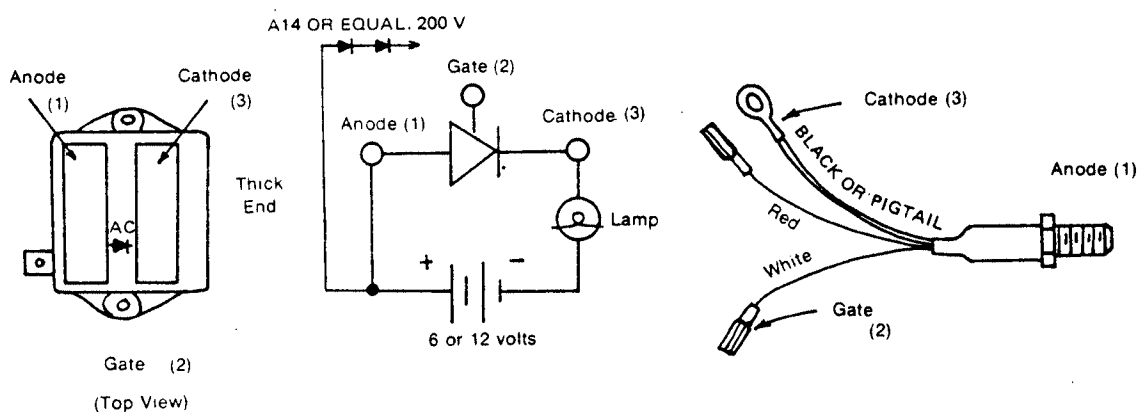

Fig. 13.
Connect the positive lead to the anode (1), connect negative lead to the cathode (3) as shown in Figure 13.